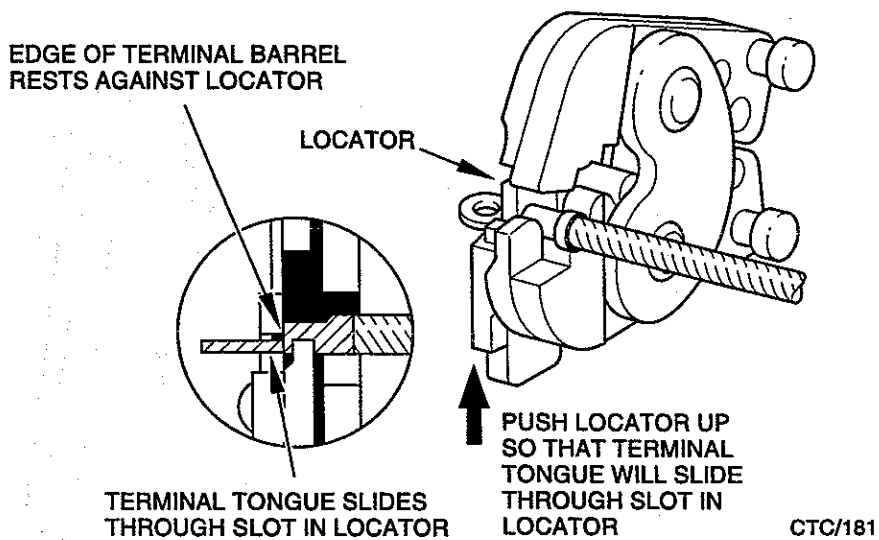

Fig 4 Correct location of termination tongue in crimping tool
- 7.1 Place the termination between the crimping jaws as shown in Fig 4.
- 9.3 Place the termination in the crimping jaws (see Fig 4) so that the barrel butts against the locator as shown.